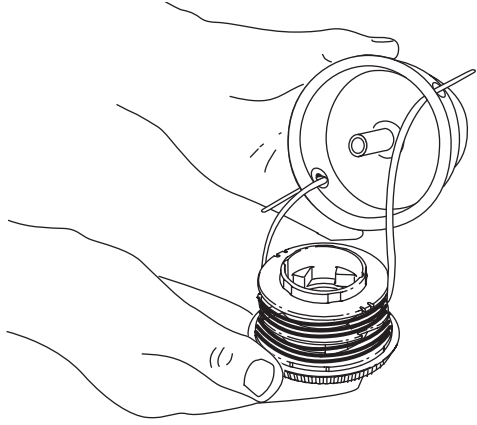

Fig. 19
3. Insert the ends of the prewound inner reel line into the outer spool eyelets (Fig. 19). Push the new inner reel, arrow side up, into the outer spool.